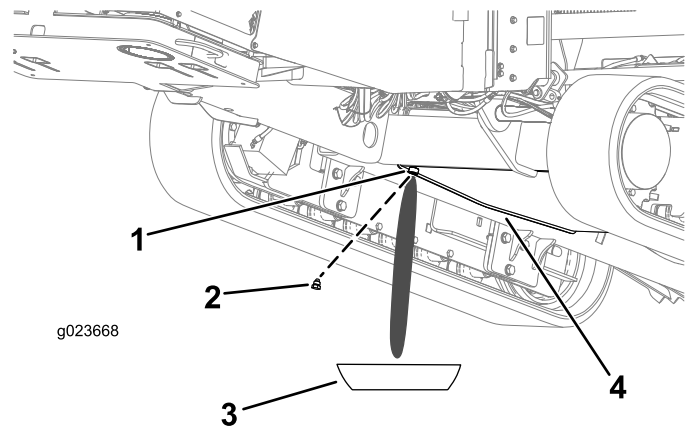

Figure 127
3. Loosen the drain plug until the water and sediment drain out (Figure 127).